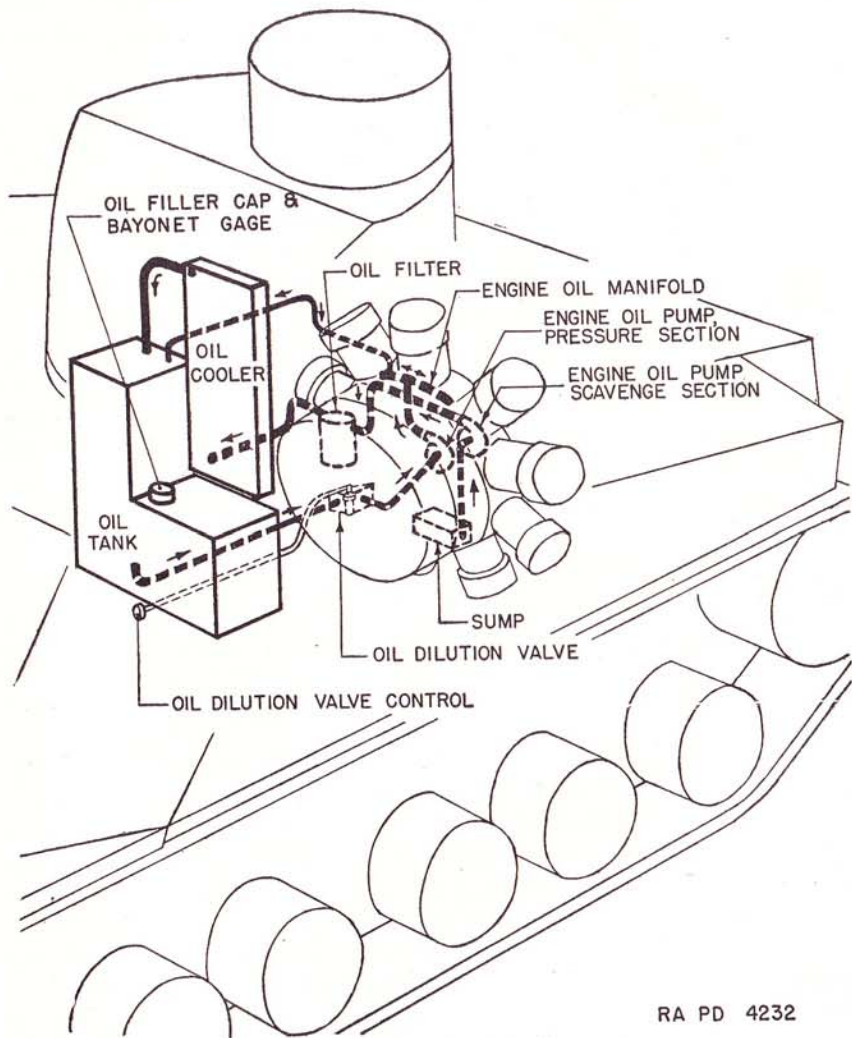

FIGURE 9.—Engine oil system.
**16. Methods.**—*a.* In the engine oil system (fig. 9), oil is drawn from the bottom of the oil tank by the engine oil pump and forced into the engine oil circuit. The excess oil in the engine oil circuit is returned directly to the oil tank by the oil pump. The oil, after lubricating the engine parts, accumulates at the bottom of the crankcase, and this oil is pumped by the oil scavenging pump through the oil filter to the oil cooler and then to the oil tank. The oil tank and oil cooler are located at the bulkhead in the fighting compartment.